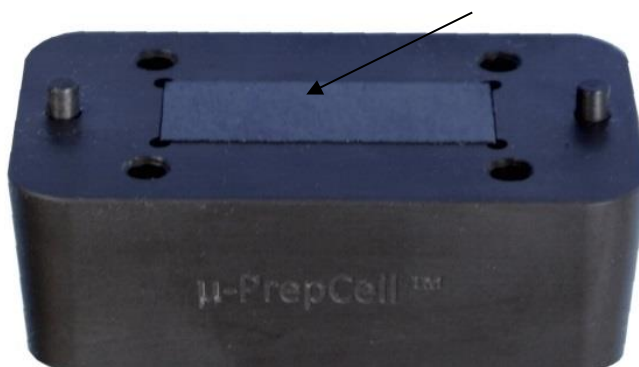
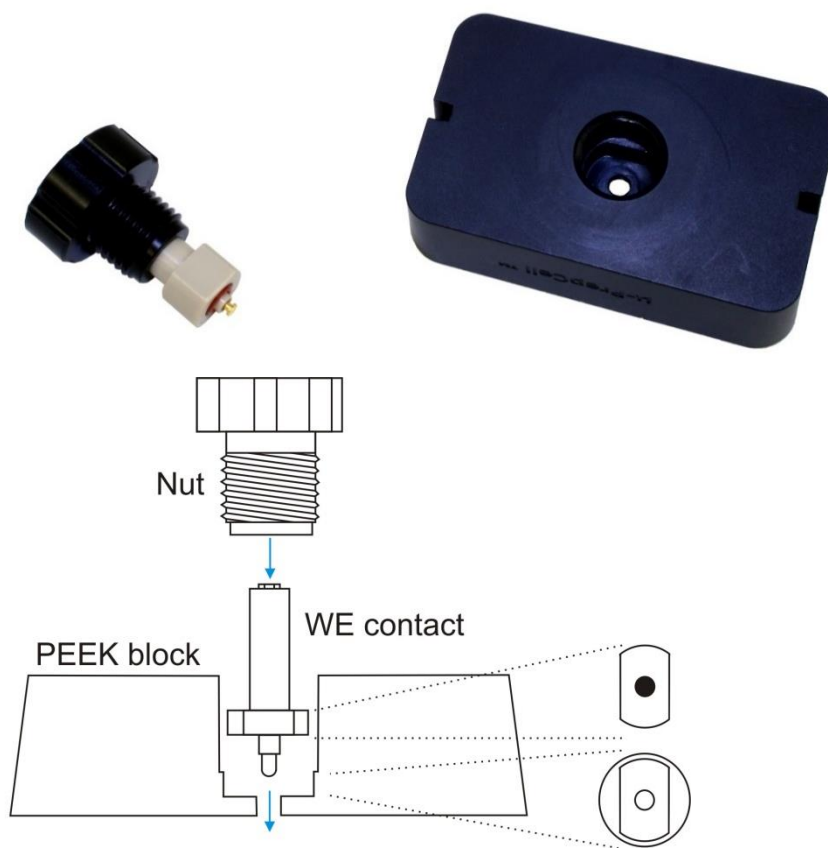

Figure 10. The PEEK WE block with MD working electrode inserted (arrow).
Figure 16.  $\mu$ -PrepCell – WE contact, nut and WE block. Below: schematic intersection.
3. Assure that the spring-loaded WE electrode contact holder (Figure 16) is never exposed to (corrosive) liquids because it may lead to corrosion of the contact and malfunction of the cell.
The WE contact (see Figure 16) should not be installed in the WE block yet. Make sure that the active side of the WE electrode is facing upwards, see previous chapter for reference. For example the MD electrode in *Figure 10* is positioned with the blue/grey crystalline diamond side upwards (and the gold back layer downwards). Furthermore, make sure that the electrode is laying levelled and centered in the recess and that it is free of any (hard) particulate matter below and on top of the electrode. It may lead to damage to the electrode and cell blocks when tightening the cell.
First insert the WE contact in the centre hole of the PEEK WE block. Fix the holder by means of the black nut. Make sure that the WE contact is inserted deep enough and 'locked' within the hole, note that the round holder has two straight sides which uniquely fit within the bottom part of the centre hole (see Figure 16). This prevents rotation of the WE contact holder when fixing the black nut.